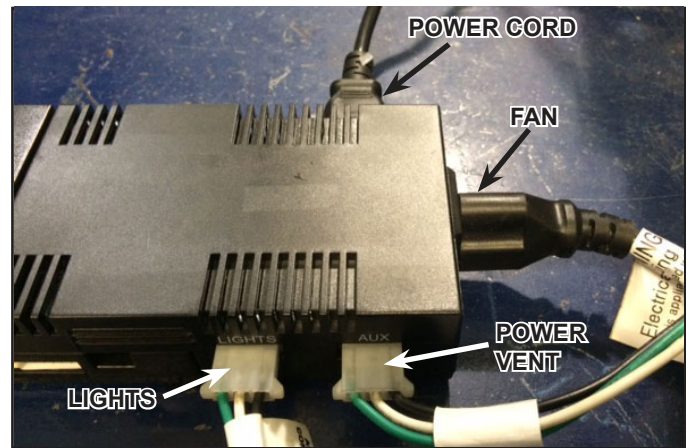

Figure 4. Fan, Lights and Power Vent Connection
- To connect a fan kit to the IFT-ACM, insert the three prong male plug from the fan into the receptacle located on the right side of the IFT-ACM. See Figure 4.
- To connect a light kit to the IFT-ACM, remove protective rubber cap labeled 'LIGHTS' and connect to the female cord that was supplied in your lights kit into the three male pins on the IFT-ACM. See Figure 4.
- To connect a power vent kit to the IFT-ACM, remove protective rubber cap labeled 'AUX' and connect to the female cord that was supplied in your power vent kit into the three male pins on the IFT-ACM. See Figure 4.
8. Connect the female end of the power cable that came with the kit into the IFT-ACM. Ensure that power cable is securely and fully inserted into the IFT-ACM. Plug the three prong male plug into the junction box of the appliance. Verify that the junction box has power. See Figure 4.